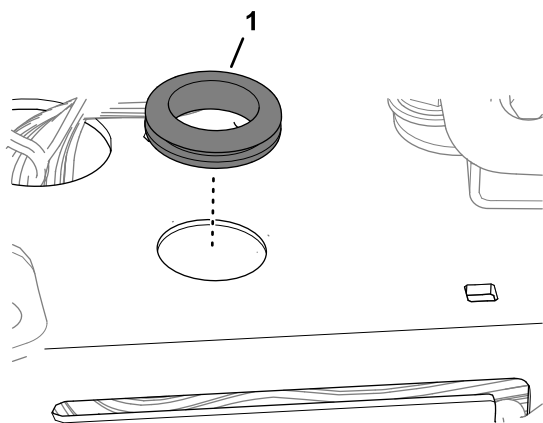

Figure 38
8. Install the grommet into the hole (Figure 38).